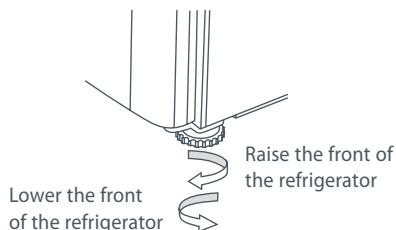

Fig.11 Refrigerator feet
- C Adjust the front feet down until the refrigerator is leaning backward with the front approximately 10 mm ($\frac{1}{2}$ ") higher than the back. This will ensure a good door closing action. (Refer to Fig.11).